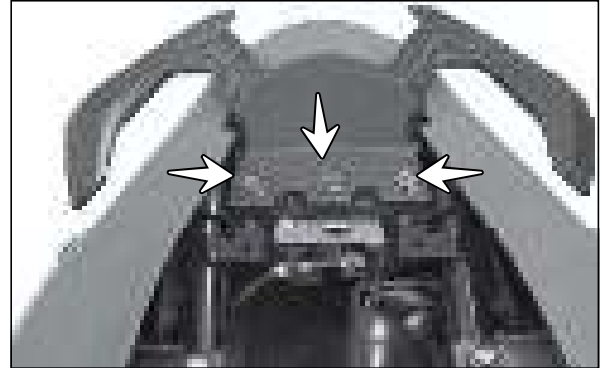

Fig. 2.25
- Remove the hexagonal flange bolt (M8 x 25 - 3 Nos.) from the mounting of pillion handle and take out the pillion handle. (Fig. 2.25)